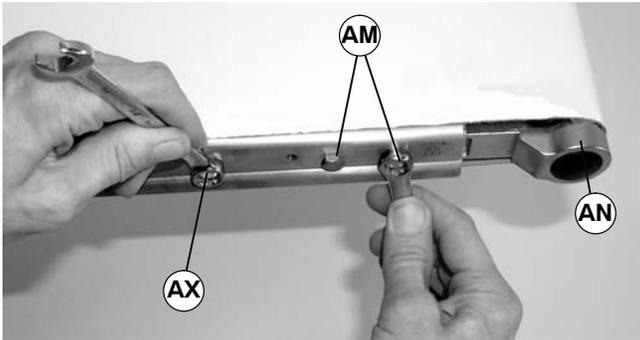
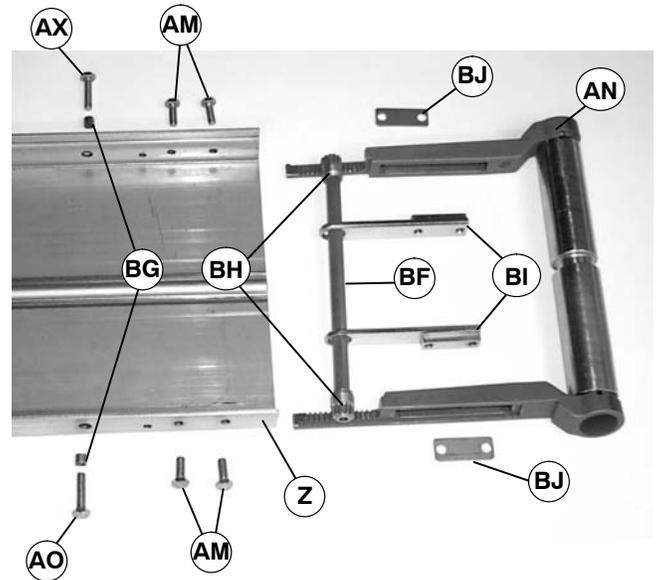

Figure 27
Figure 33
1. On tension end of the conveyor, loosen two M6 hex head cap screws (AM of Figure 27) on each side of conveyor.
3. Repeat steps 1 and 2 for screw (AX of Figures 27 and 33) on opposite side of conveyor.
4. Remove two M6 hex head cap screws (AM) from each side of conveyor.
5. Remove two pinion ends (BH of Figure 33), clamp blocks (BI), hex pinion (BF), two spacers (BJ) and tail assembly (AN) from conveyor (Z).
IMPORTANT: Loosely install two spacers (BJ of Figures 33 and 41) and four screws (AM) prior to installing idler tail assembly (AN) on conveyor.